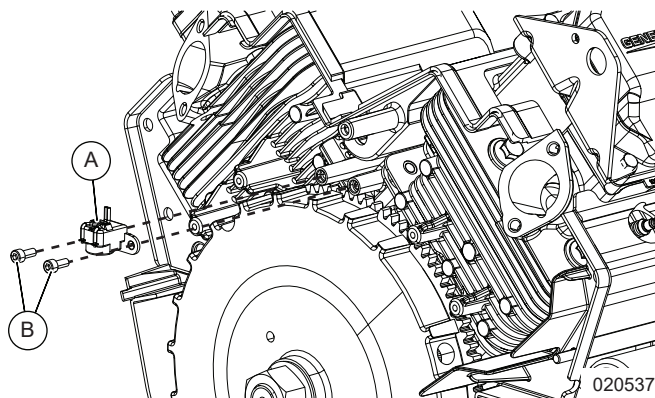

Figure 7-10. Install Crankshaft Position Sensor
1. See Figure 7-10. Install crankshaft position sensor (A) using fasteners (B).